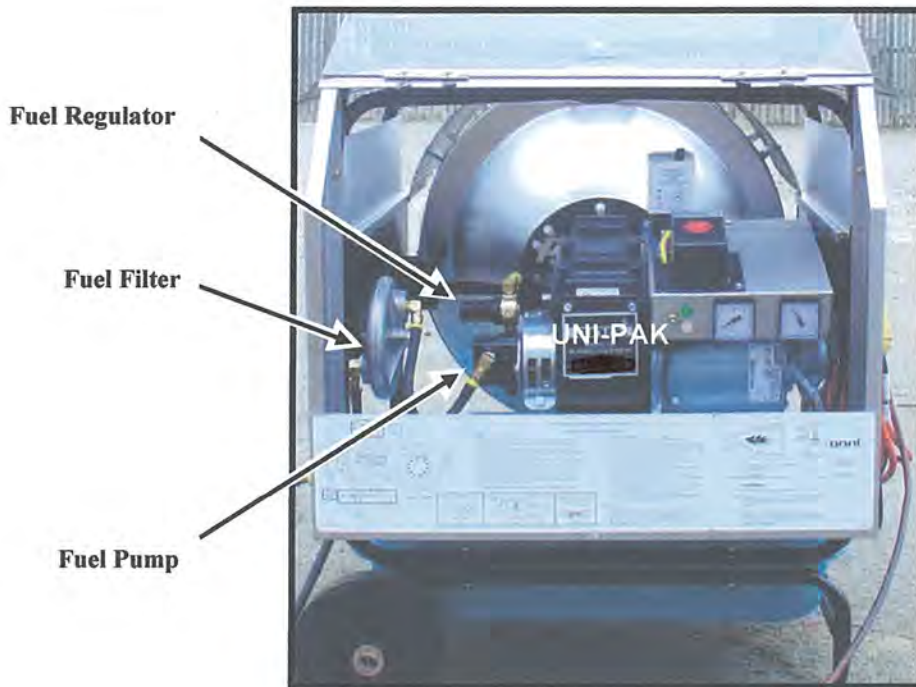
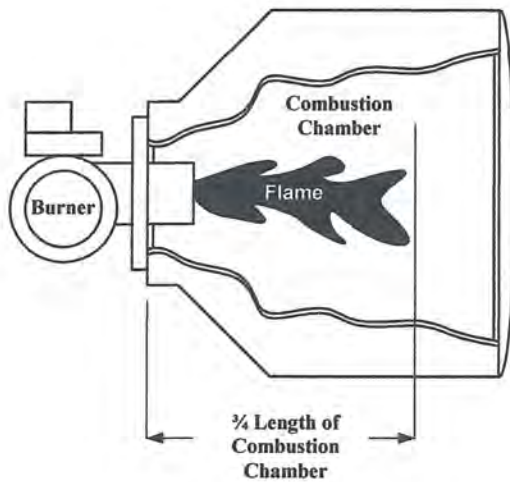
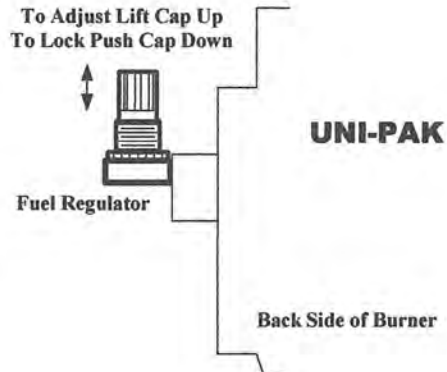

Figure 7 – Radiant Heater (Back View)
Figure 8 – Flame Adjustment
Figure 9 – Fuel Regulator
- **Oil Pressure Gauge:** (figure 4) Displays oil pressure at the burner. Adjust flame to 3/4 length of combustion chamber (figure 8) by increasing CW or decreasing CCW the adjuster located on the left side of burner (figure 9). The fuel regulator increases or decreases delivery of fuel to the burner. When you increase or decrease the fuel to the burner you will notice the flame length will increase or decrease.
- **Fuel Pump:** (figure 7, 13) pumps fuel from fuel tank to burner.
- **Fuel Filter:** (figure 7, 14) filters fuel prior to entering pump.
- **Fuel Regulator:** (figure 7, 12) The fuel regulator increases or decreases delivery of fuel to the burner. When you increase or decrease the fuel to the burner you will notice the flame length will increase or decrease. Adjust flame to 3/4 length of combustion chamber (figure 8) by increasing CW or decreasing CCW the fuel regulator located on the left side of burner (figure 9).